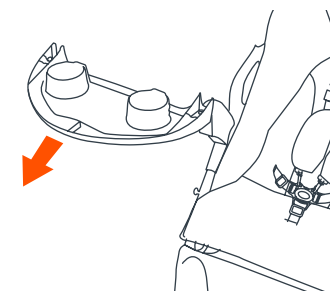

Fig. 13b
- To remove the child tray: Press the release button and rotate the tray 180 degrees and pull the tray until it released (Fig. 13b).